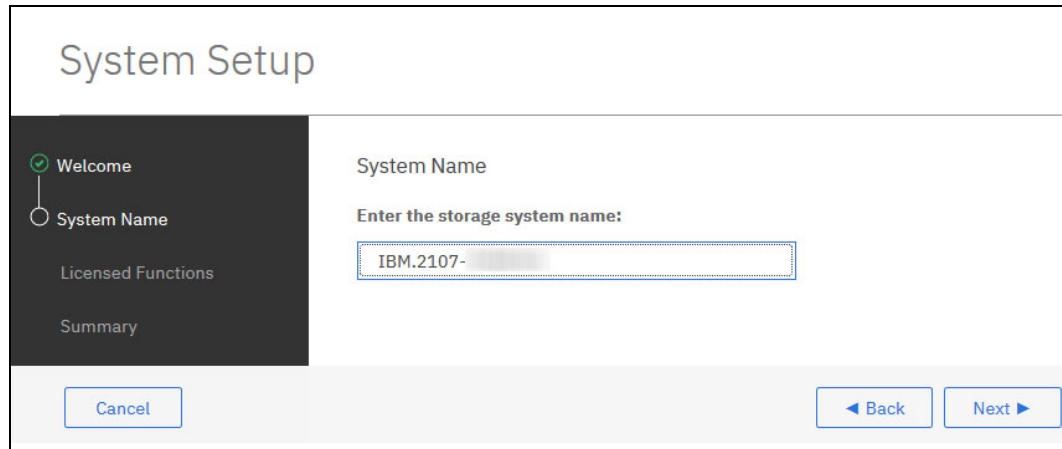

Figure 9-4 System Setup: System Name window
1. Click **Next**. The System Name window opens. The default entry is the storage system serial number, which is shown in Figure 9-4. The user can create a preferred system name that complies with the naming convention that is used in their environment.